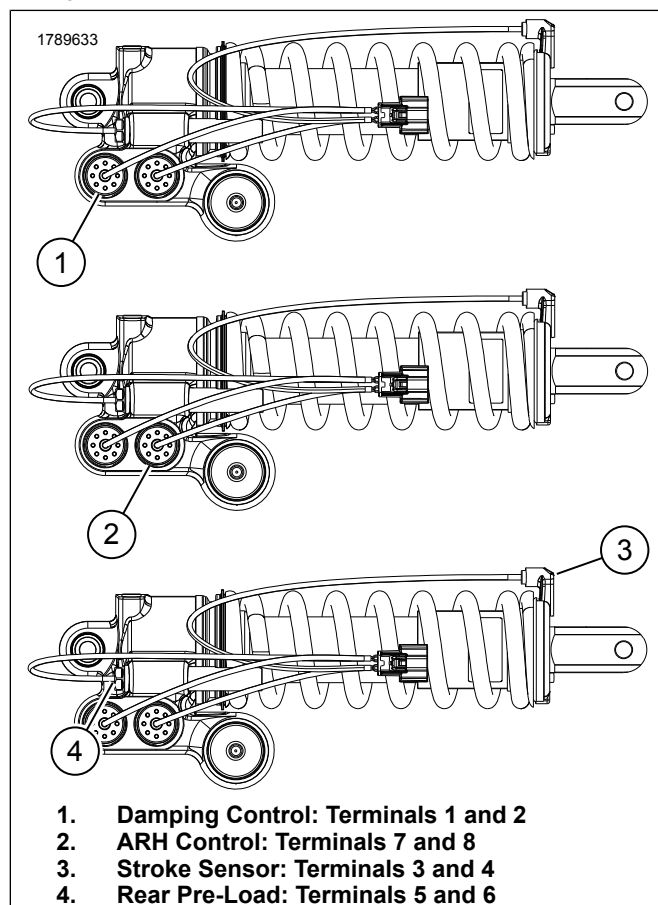
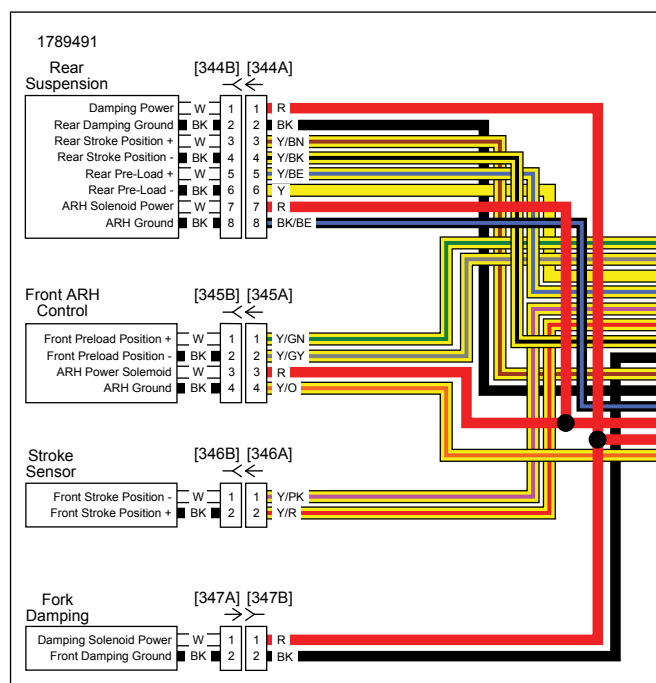

Figure 5. [344 A/B] and [345 A/B]
Figure 6. Black and White Wires
- See Figure 5 and Figure 6. Inspect semi-active equipped suspension connectors [344A/B] and [345A/B] for properly seated terminals.